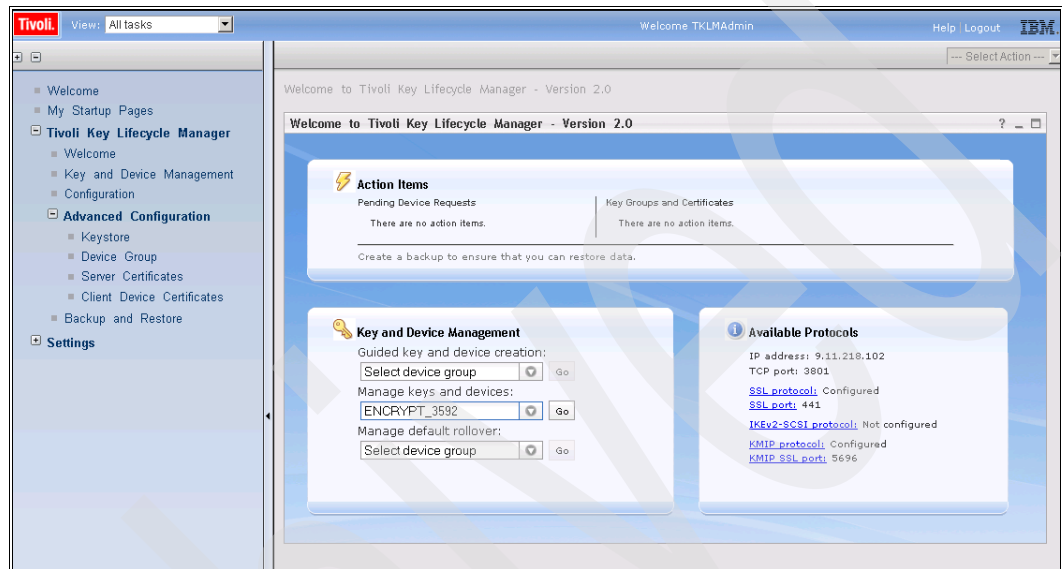

Figure 9-37 Welcome panel
2. Select the group in the **Manage Keys and Devices** drop-down box and click **Go** (Figure 9-37).